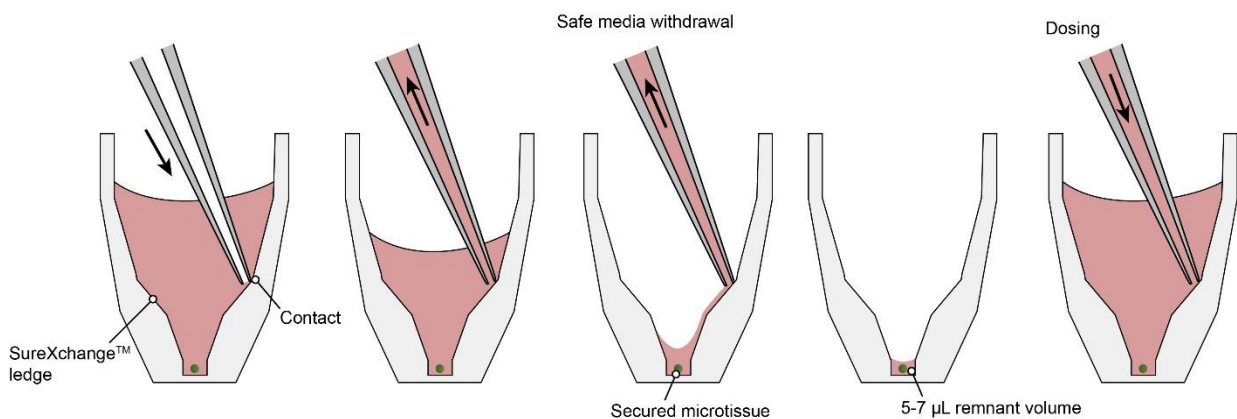

Figure 3: Medium exchange in the Akura™ 96 Plate. Left: Medium removal with the pipette tip placed at the ledge of the well. Right: Medium addition.
2. Gently pipette the pre-wetting solution up and down and remove pre-wetting solution by placing the tip at the ledge of the upper cavity of the well (Fig. 3). Aspirate until medium is completely removed from each well. A negligible amount of medium (<5-7 µl) may remain in the bottom of the chamber.
1. Place the pipette tip at the ledge of the well (Fig. 3, left).
3. Add 70 μl of fresh medium by placing the pipette tip at the ledge (Fig. 3, right). Use a dispensing rate <50 $\mu\text{l}/\text{sec}$.
1. Place pipette tip at the ledge by slowly sliding down along the inside wall of the well until a subtle resistance can be felt (Fig. 3, left)
3. Add 70 µl of pre-warmed medium by placing the pipette tip at the ledge of the plate well (Fig. 3, right) and gently dispense at low pipetting speed (speed dependent on spheroid type, ~10 – 30 µl/sec if using an automated multi-channel pipette).